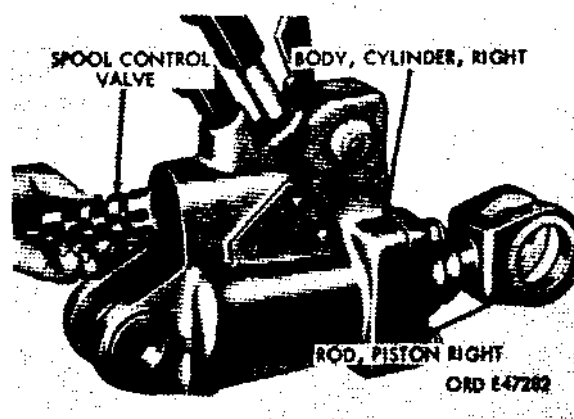

Figure 494. Removing control valve spool
- (a) Remove control-valve spool end plug (S), gasket (R), and control valve spool spring (Q) from right cylinder body (M). Remove control valve spool (fig. 494) from valve chamber in right cylinder body.